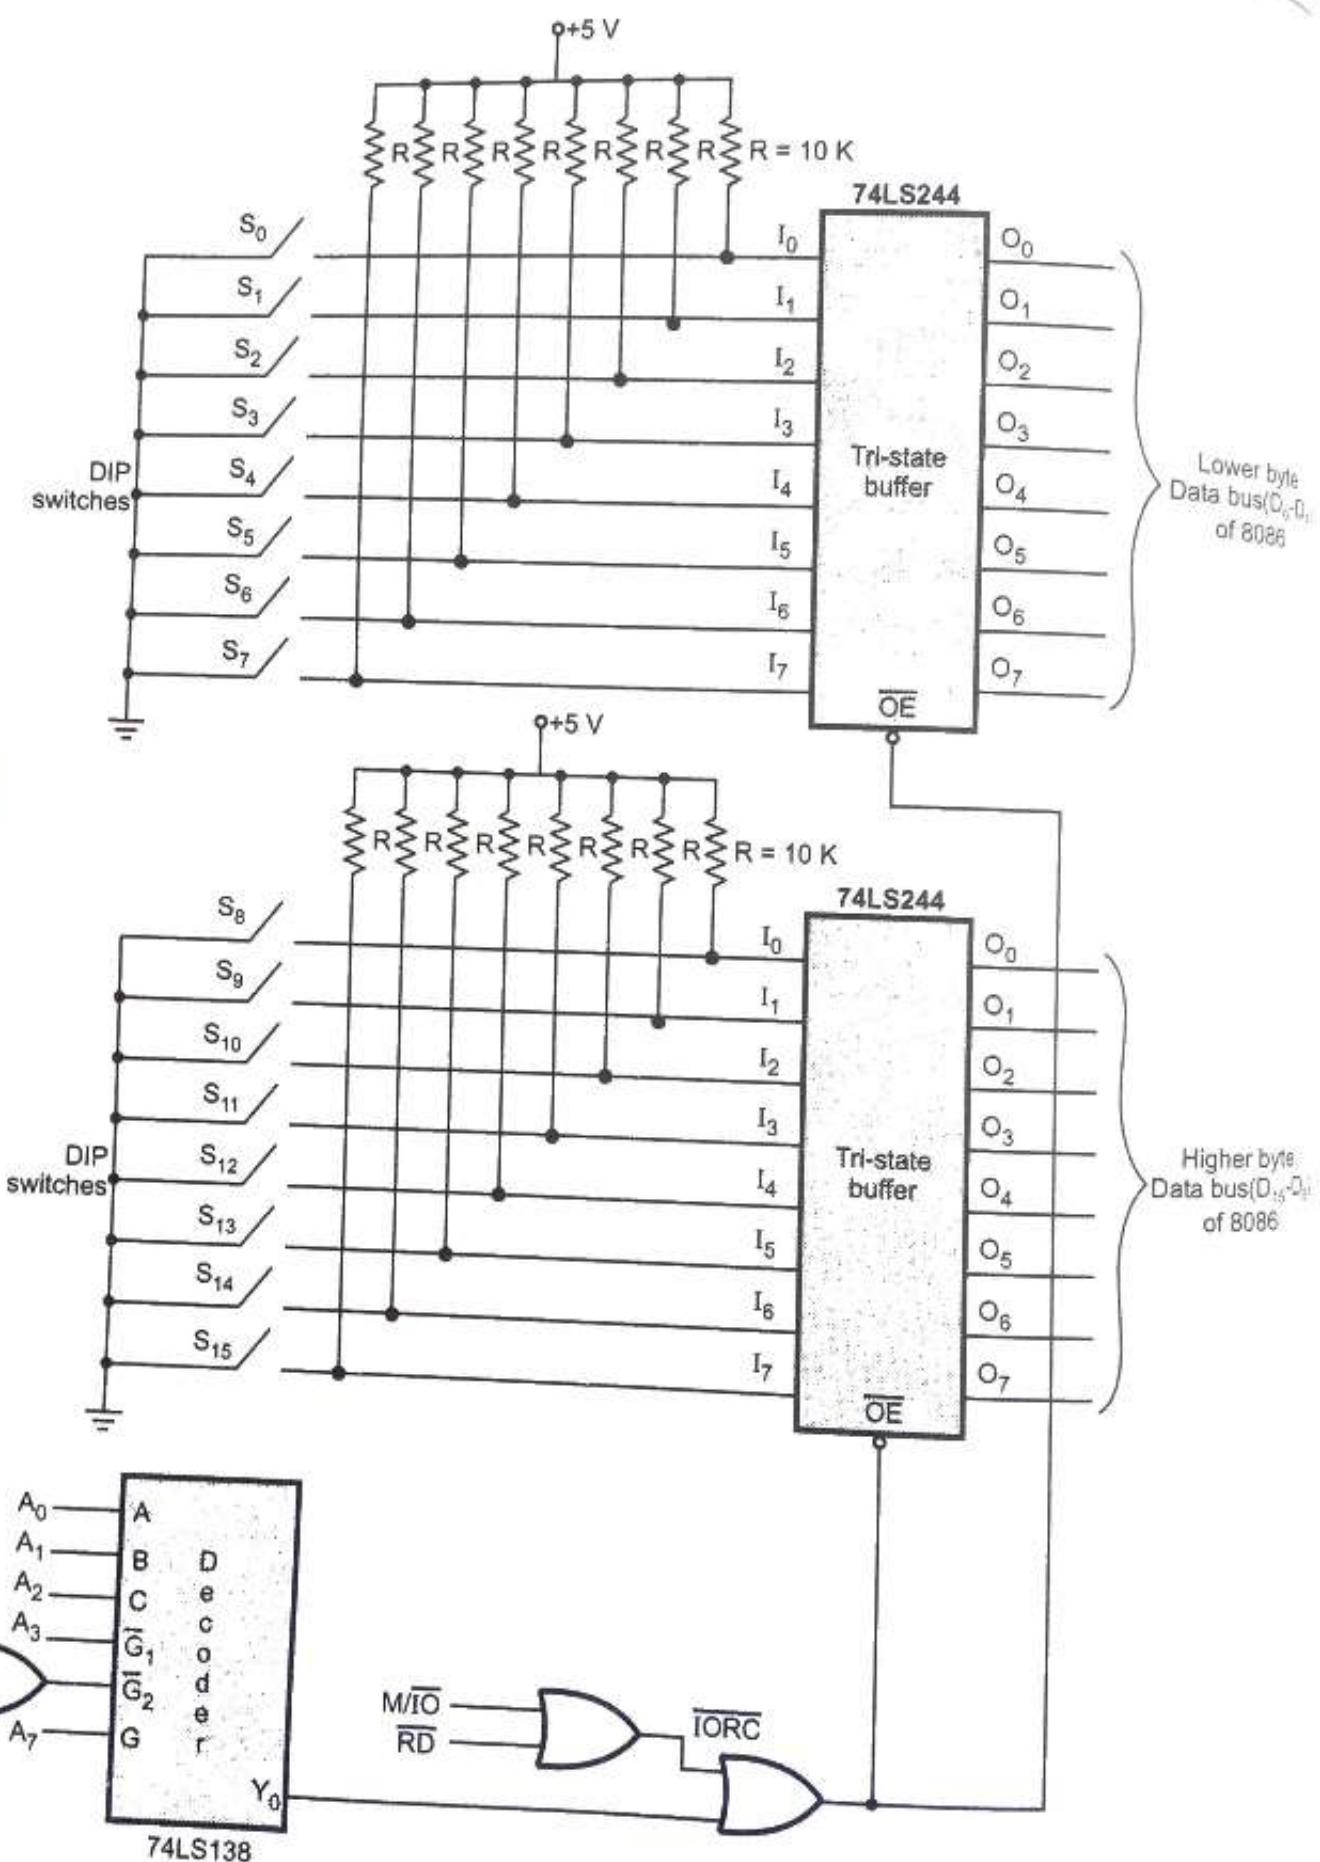

Fig. 3.1.4 Circuit diagram to interface 16-bit input port
- Let us see interfacing of 16-bit input port. Fig. 3.1.4 shows the circuit diagram to interface 16-bit input port (buffer) which is used to read the status of 16 switches. The address for this input port is 80H as device select signal goes low when address is 80H. (See Fig. 3.1.4 on next page)